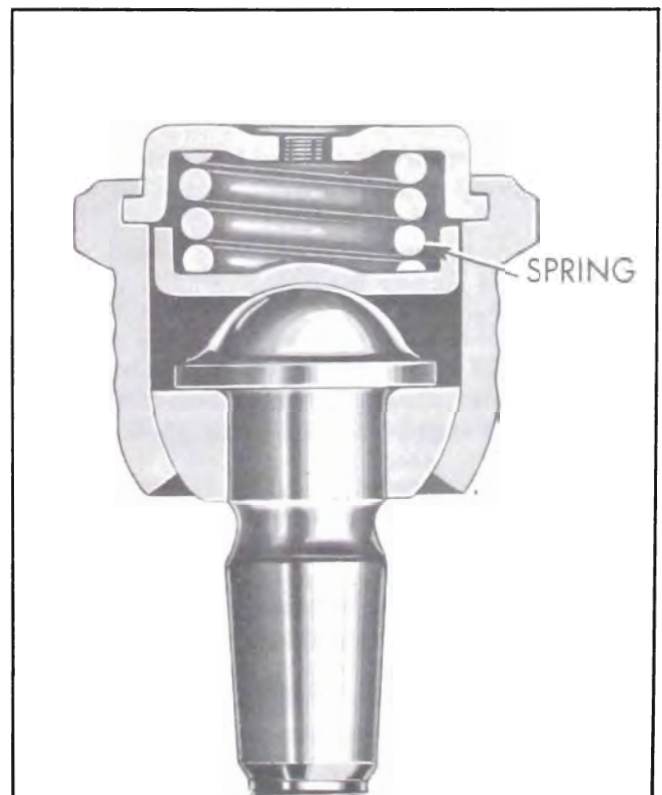

Figure 7-8—Upper Ball Joint
**NOTE:** The upper ball stud is spring loaded in its socket. If the upper stud has any perceptible shake, or if it can be twisted in its socket with the fingers, the upper ball joint should be replaced. See Figure 7-8.